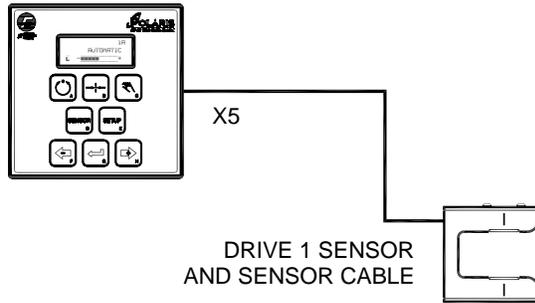

Figure 2.
1. Connect the system according to the System Block Diagram and *Figure Sheet 1-861*, which is supplied with each system. Refer to *Figures 2 and 3* for basic systems cable connections.